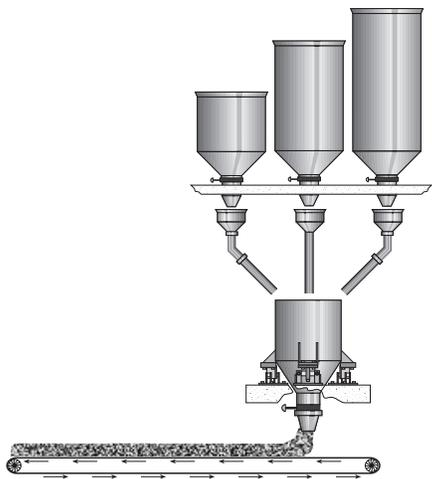

Figure 1-11
- G. Figure 1-11 illustrates a multiple-ingredient batching system where all the ingredients are weighed one at a time in a single weigh hopper.